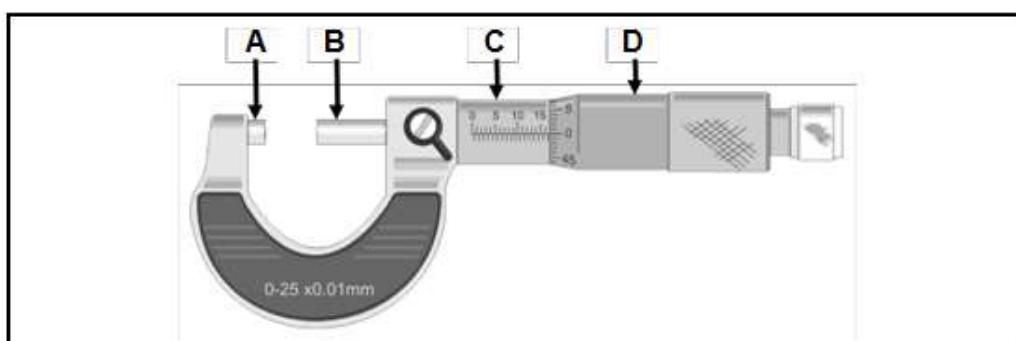

FIGURE 9.1 (4)
9.1 FIGURE 9.1 below shows an outside micrometer. Label A–D in the figure.